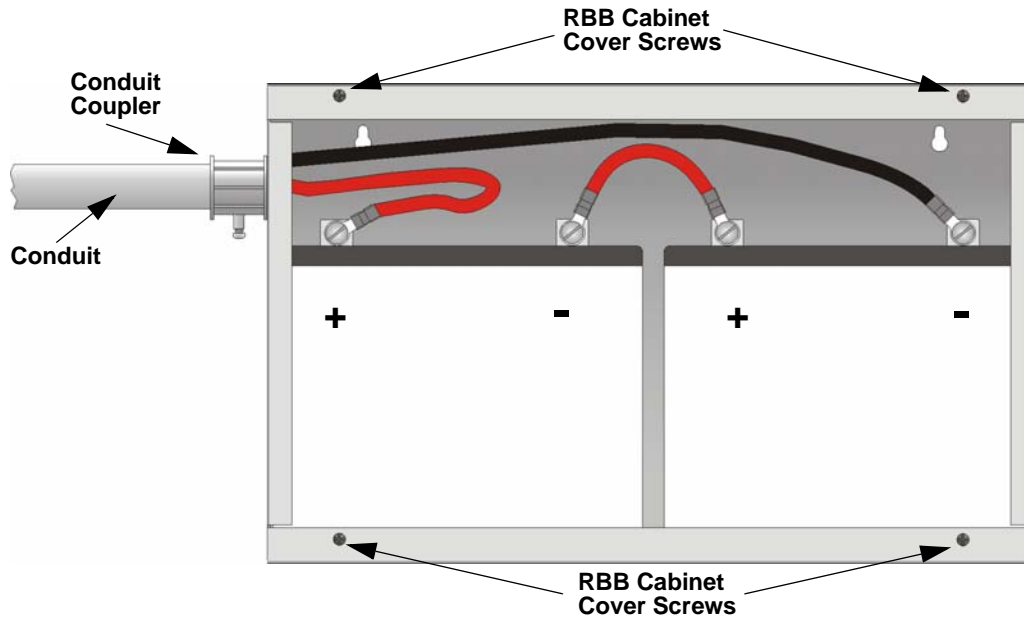

Figure 4-5 Battery Connections in the RBB Cabinet
- Run extended battery cable from control panel cabinet through conduit to RBB cabinet. See Figure 4-5.
Note: Figure 4-5 is an example of how the wire connections can be routed. However, any other cabinet knock-outs (on either the main control panel or the RBB cabinet), that are not previously being used may be utilized to connect conduit between the two cabinets.
- Connect battery leads to the backup battery terminals. See Figure 4-5. Observe the proper polarity to prevent damage to the batteries or the control panel.
- Insert the RBB cover screws into the cover mounting holes (see Figure 4-5). Screw the cover screw $\frac{3}{4}$ of the way into the cover mounting hole.